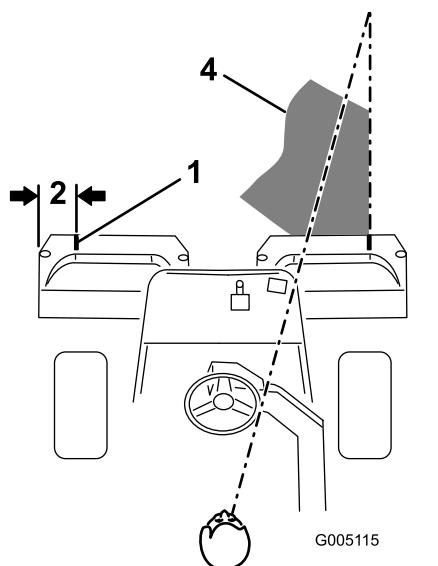
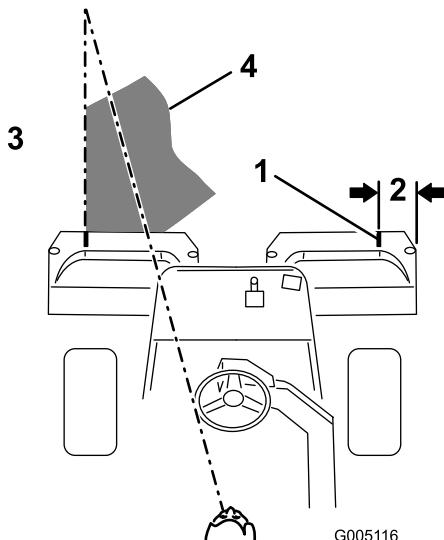

Figure 40
Figure 41
2. Either place a strip of white tape or paint a line onto each basket paralleling the outer edge of each basket (Figure 40).
3. Overlap a minimal amount with the previous cut on return passes. To assist in maintaining a straight line across the green and keep the machine an equal distance from the edge of the previous cut, establish an imaginary sight line approximately 6 to 10 ft (1.8 to 3 m) ahead of the machine to the edge of the uncut portion of the green (Figure 40 and Figure 41). Some find it useful to include the outer edge of the steering wheel as part of the sight line; i.e. keep the steering wheel edge aligned with a point that is always kept the same distance away from the front of the machine (Figure 40 and Figure 41).